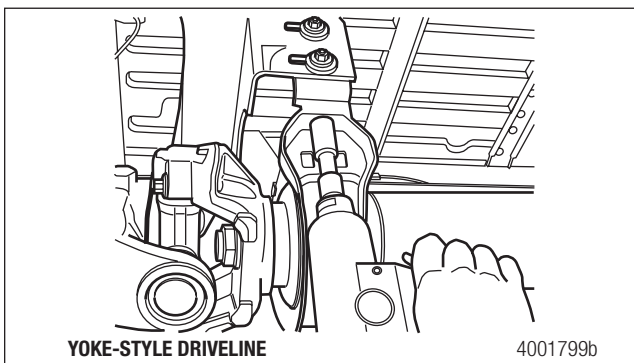
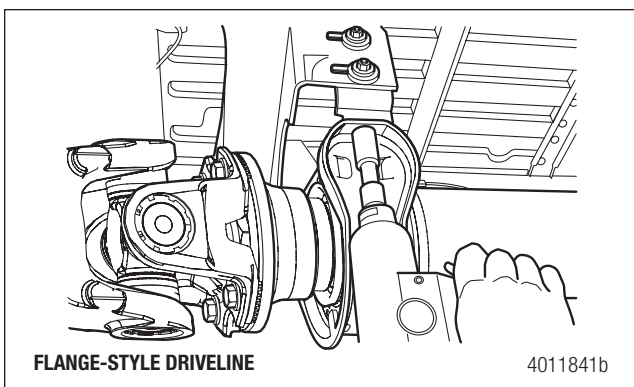

Figure 10.2
Figure 10.3
2. Remove the center bearing bracket bolts. Figure 10.2 and Figure 10.3.